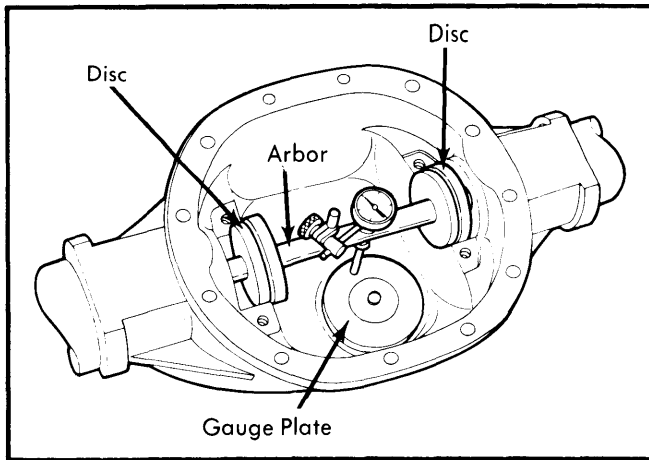

Fig. 3 Gauge Shaft Assembly Installed in Carrier
3) Install discs on gauge shaft assembly, then position assembly in carrier so dial indicator rod is centered on gauge block and discs are seated in side bearing bores. Install bearing caps and tighten bolts to 35 Ft. lbs. See Fig. 3.